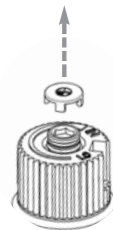

Fig. 1
- 9) Remove the black protection cap by hand from the hi-low knob (Fig.1).